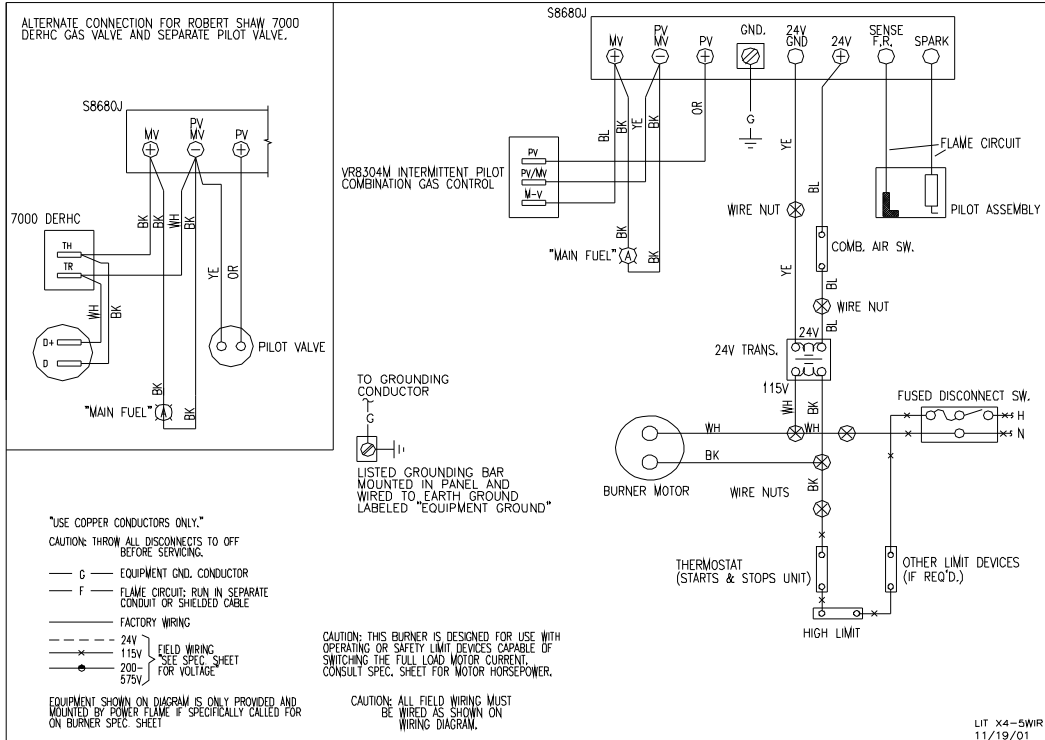

Figure 5: Typical Wiring Diagram for S8680J with Proved Pilot Ignition
- 6.1 Refer to wiring diagram shipped with burner and typical wiring diagrams Figures 5 and 6. The two power leads (black and white) are located inside the burner panel.